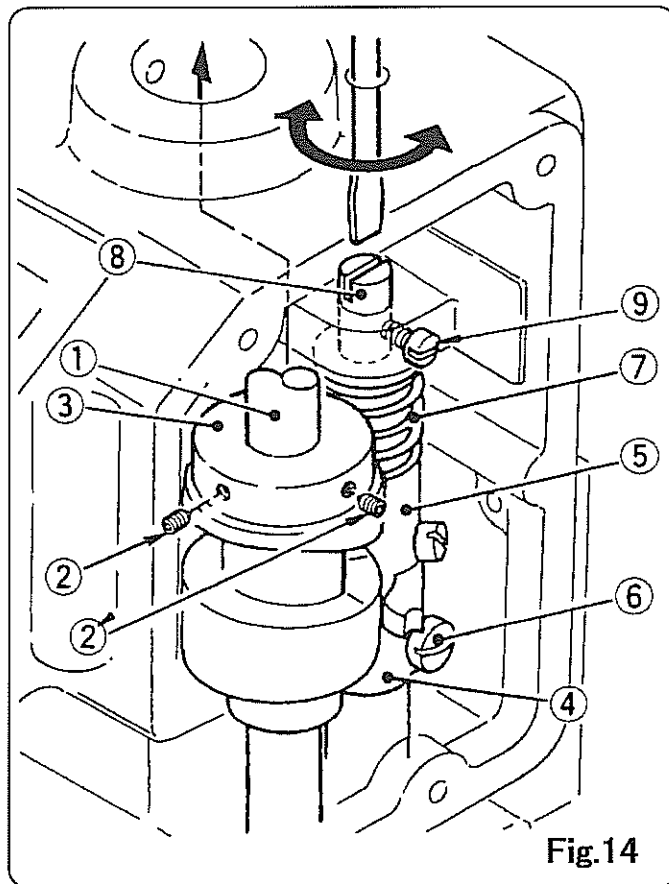

Fig.14
Adjust Looper Drive Cam ③ When necessary as follows: (Refer to Fig.14.).
- a) Apply the Screws ② and ②' on the taper of Main Shaft ①.
- b) Adjust Arm (B) ④, so that Looper Drive Cam ③ and Arm (A) ⑤ move smoothly. After adjusting, fix the Screw ⑥ tightly.
- c) The clearance between Looper Drive Cam ③ and Arm ⑤ is effected by Spring ⑦. Loosen Screw ⑨ and turn Spring Supporter ⑧ to adjust the pressure of Spring ⑦. After adjusting, tighten the Screw ⑨ to fasten Spring Supporter ⑧.
- ① Main Shaft 241102
- ② ②' Screw 15/64S28524
- ③ Looper Drive Cam 243012
- ④ Looper Rocker Shaft Arm (B) 243081
- ⑤ Looper Rocker Shaft Arm (A) 243071
- ⑥ Screw for Looper Rocker Shaft Arm (B) 11/64S40009
- ⑦ Spring 243131